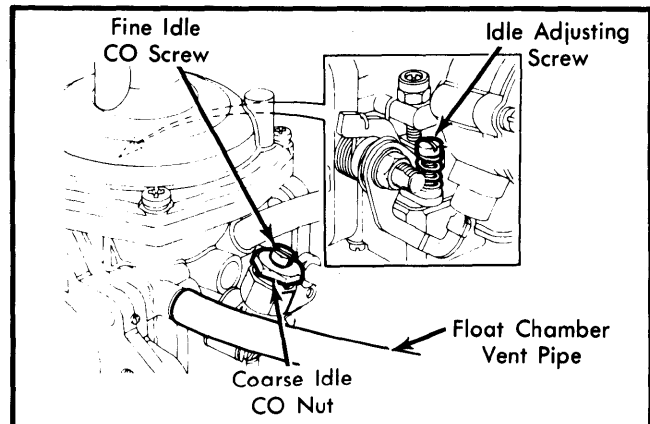

Fig. 3 Adjusting Idle Speed & CO%
- 2) Disconnect air manifold hose from check valve and plug hose. Disconnect float chamber vent pipe from carburetor. See Fig. 3.